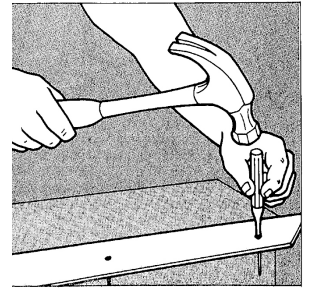

Figure 1G-1
1. Begin by using your center punch from the front side to drive the original nails all the way through (Figure 1G-1).